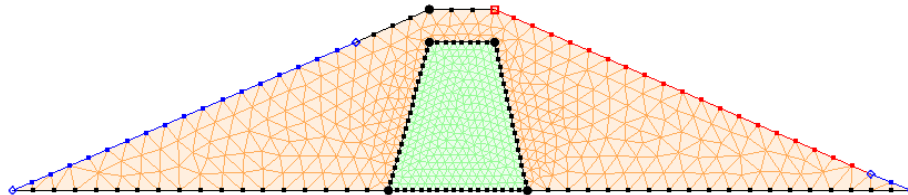

Figure 10 The 2D mesh has been created
15. Click the **Map** → **2D Mesh**  macro at the top of the GMS window (or select *Feature Objects* / **Map** → **2D Mesh**) to create the 2D mesh (Figure 10).